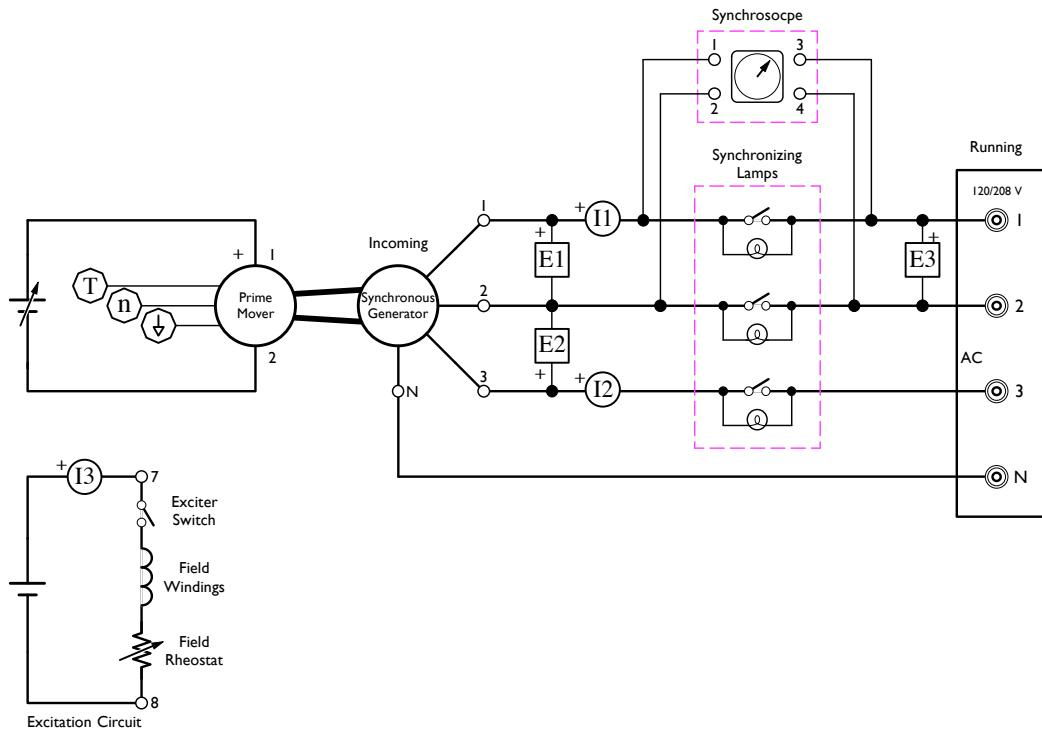

Figure 6.1: Synchronous Generator Paralleled with the AC Power Network
7. Connect the equipment as shown in the Figure 6.1.